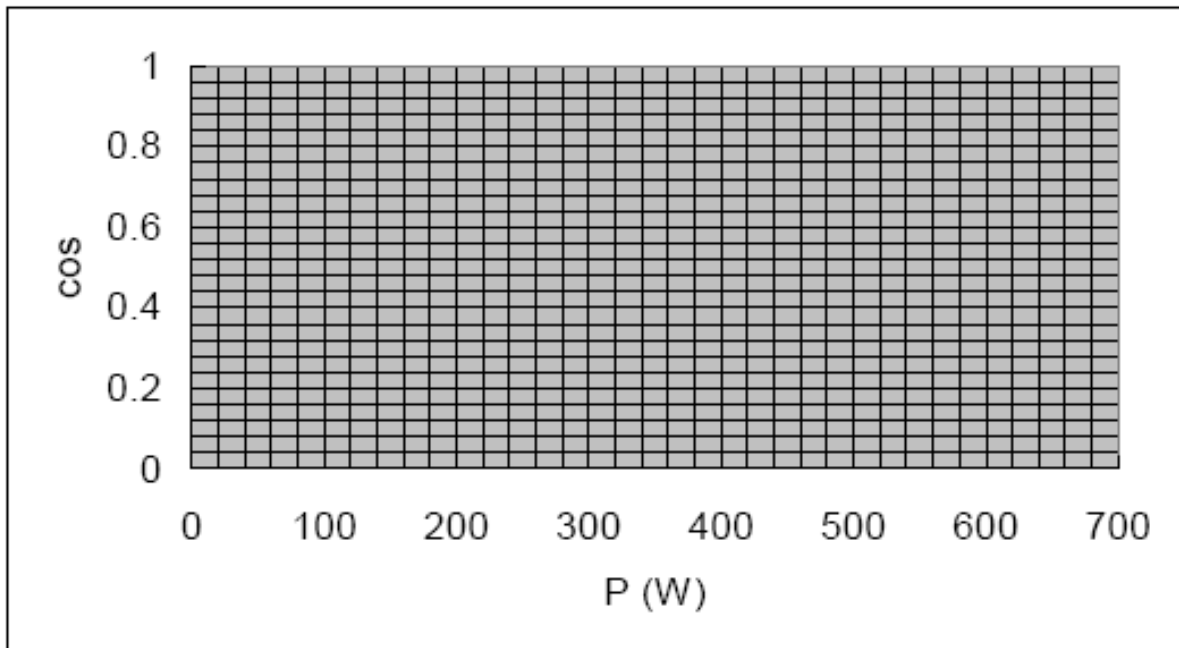

Fig. 12-6-5 The  $\cos \theta$  vs  $P$  curve
11. Using the results of Table 12-6-1, plot the  $\cos \theta$  vs  $P$  curve on the graph of Fig. 12-6-5.